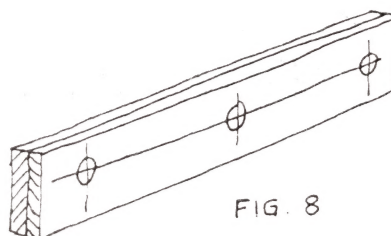

FIG. 8
Step 13 - starting about 5 mm from one end, scribe cross lines according to the spacing of your tender axles. See Figure 8.